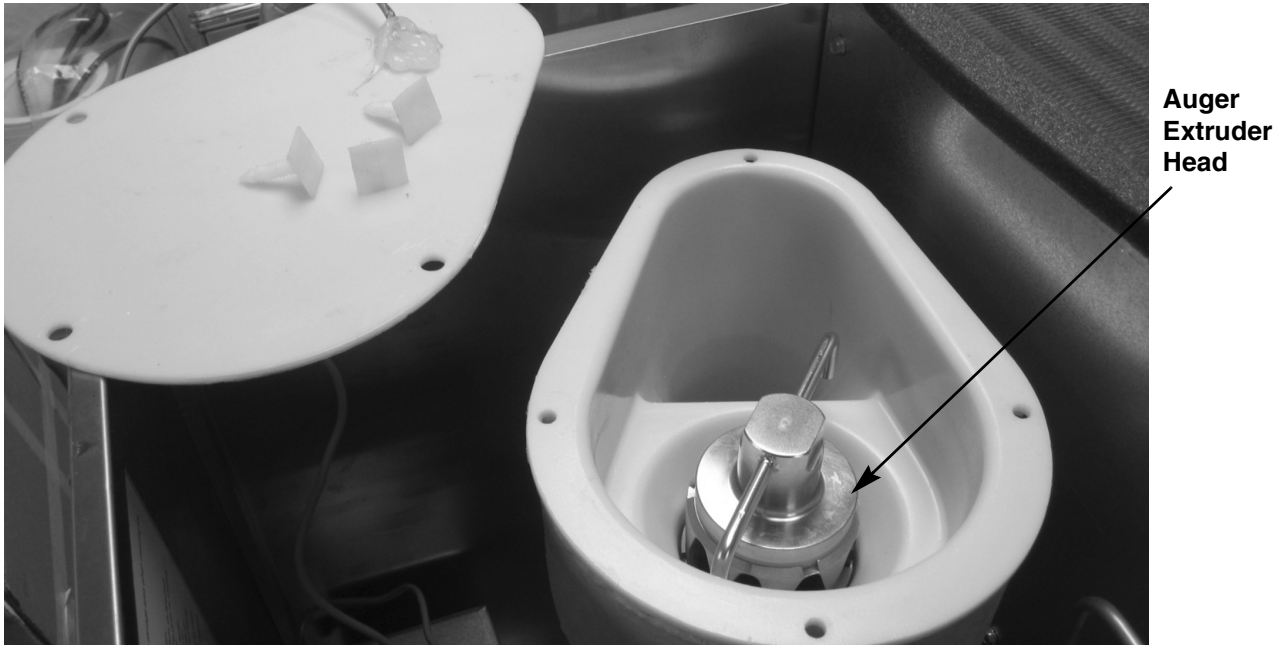

Figure 16
3. Carefully rotate the extruder head until the tabs on the extruder head drop into the slots on the evaporator plate, as shown in figure 16. When the auger/extruder head assembly is rotated to the proper position, it will drop about 1/4 inch to more fully engage the motor drive shaft.